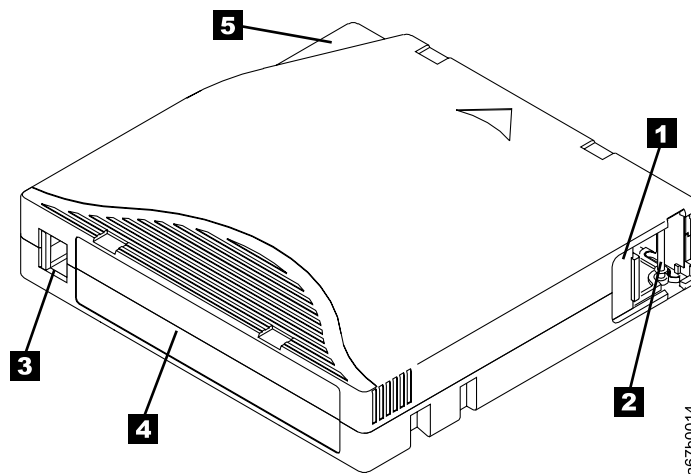

Figure 201. The IBM LTO Ultrium Data Cartridge
Figure 201 shows the IBM LTO Ultrium Data Cartridge and its components.
The cartridge door ( **1** in Figure 201 on page 155) protects the tape from contamination when the cartridge is out of the drive. Behind the door, the tape is attached to a leader pin **2**. When you insert the cartridge into the drive, a threading mechanism pulls the pin (and tape) out of the cartridge, across the drive head, and onto a non-removable takeup reel. The head can then read or write data from or to the tape.
When attaching a bar code label to a tape cartridge, place the label only in the recessed label area (see **4** in Figure 201 on page 155). A label that extends outside of the recessed area can cause loading problems in the drive or the library.
- Position the label within the recessed label area (see **4** in Figure 201 on page 155).